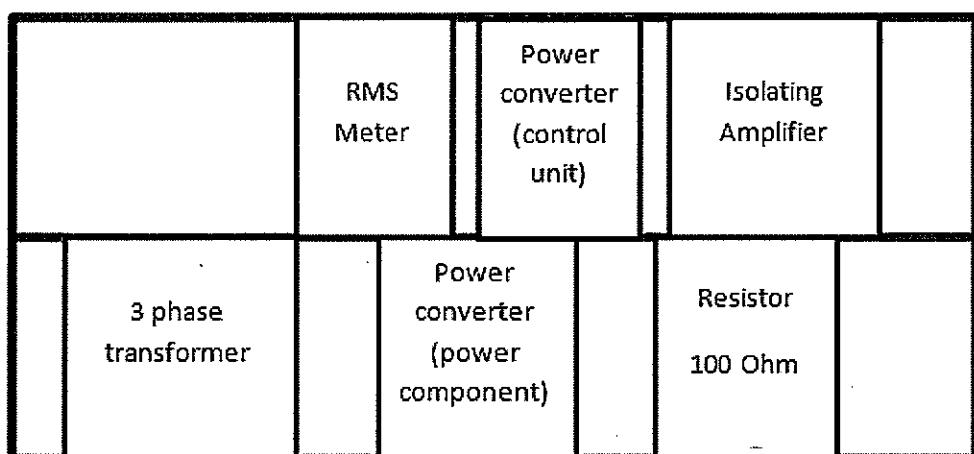

Figure 2.5: Apparatus arrangement
1. Arrange the apparatus as in the illustration in Figure 2.5.